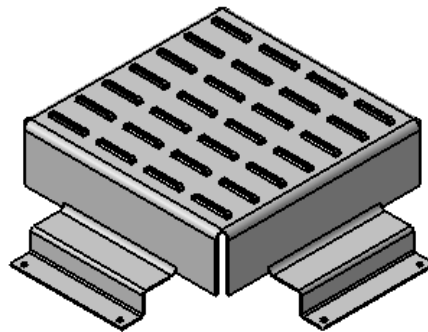

*Figure 15-142 The Bridge feature created*
5. Change the direction, if required, and choose **OK**; the Bridge feature is created, as shown in Figure 15-142.